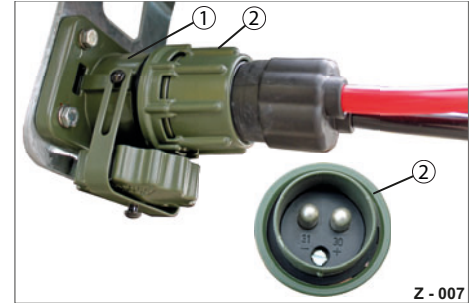

Abb. 11 Power supply connected
- ▶ Plug the NATO connector (Abb. 11/2) into the NATO socket (Abb. 11/1) and screw the connection tight.